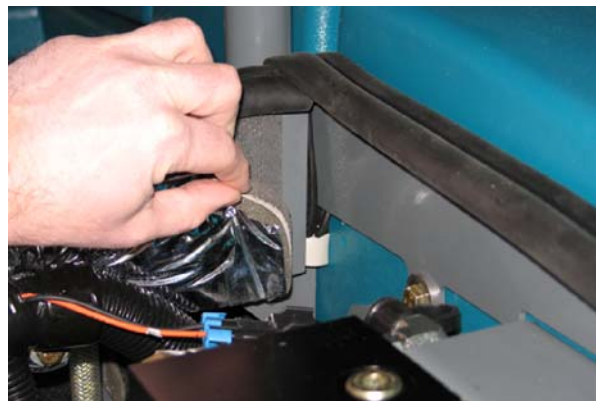
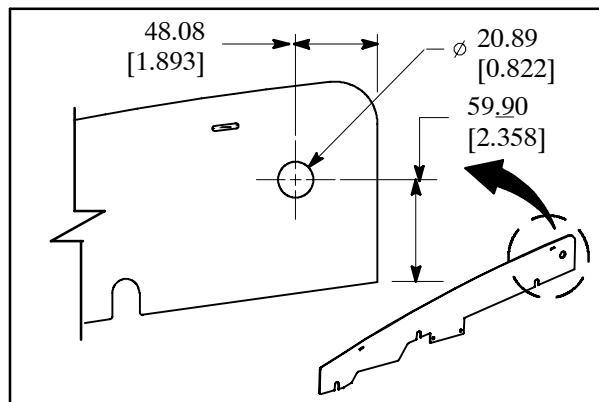

FIG. 1
FIG. 2
1. Pull the insulation away from the operator compartment panel (Fig. 1.) and drill a 13/16" hole into the panel (Fig. 2). If there is already a hole in the panel, remove the plug from the hole.